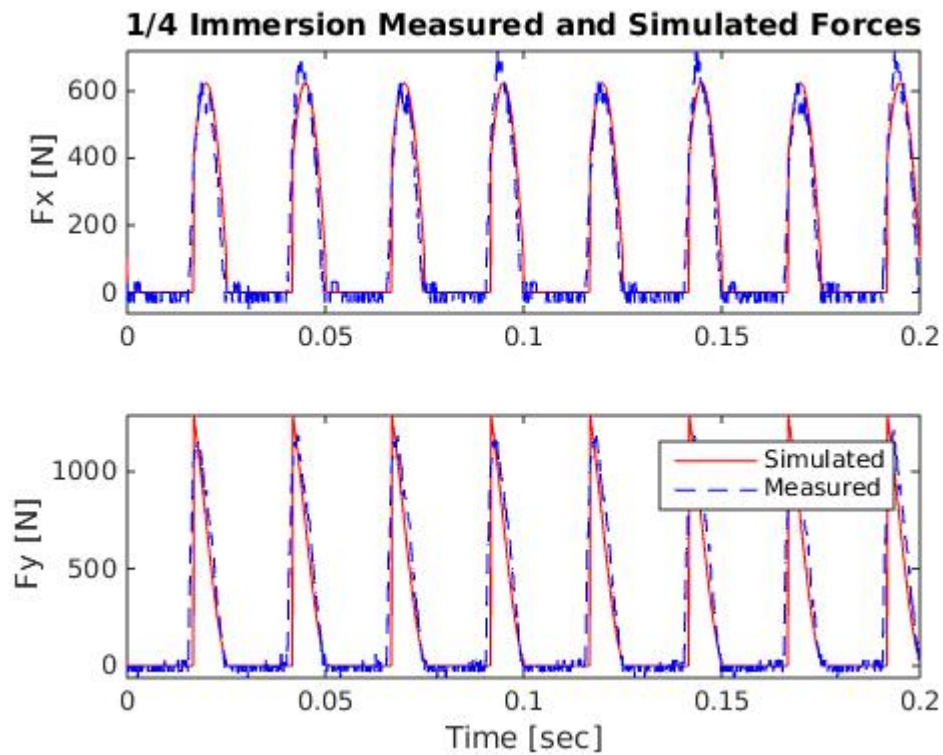

Figure 1: Quarter Immersion with Measured and Simulated Forces
- Figure 1 is the graph for F_x and F_y of the quarter immersion simulation